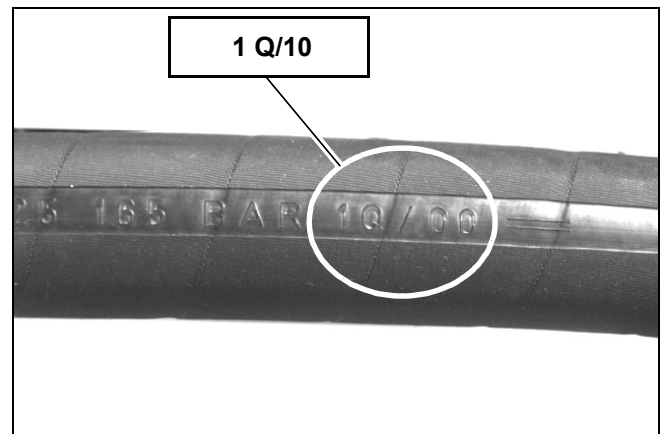

Figure 4-17 Hydraulic Hose Manufacture Date
- Hydraulic hoses must be replaced every six years from the date of manufacture, even if they do not appear damaged. The date of manufacture (month or quarter and year) is indicated on hydraulic hoses. See Figure 4-17.